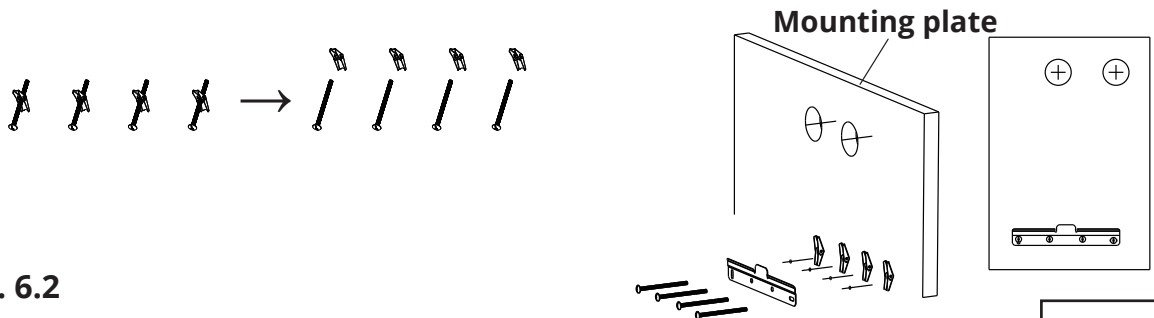

Fig. 6.2
1. Make 4 holes in the wall with the drill. Affix the upper bracket securely to the wall with the expanded screws, ensure that it is level, and ensure that it can support the weight of the water heater. **(See Fig. 6.2)**